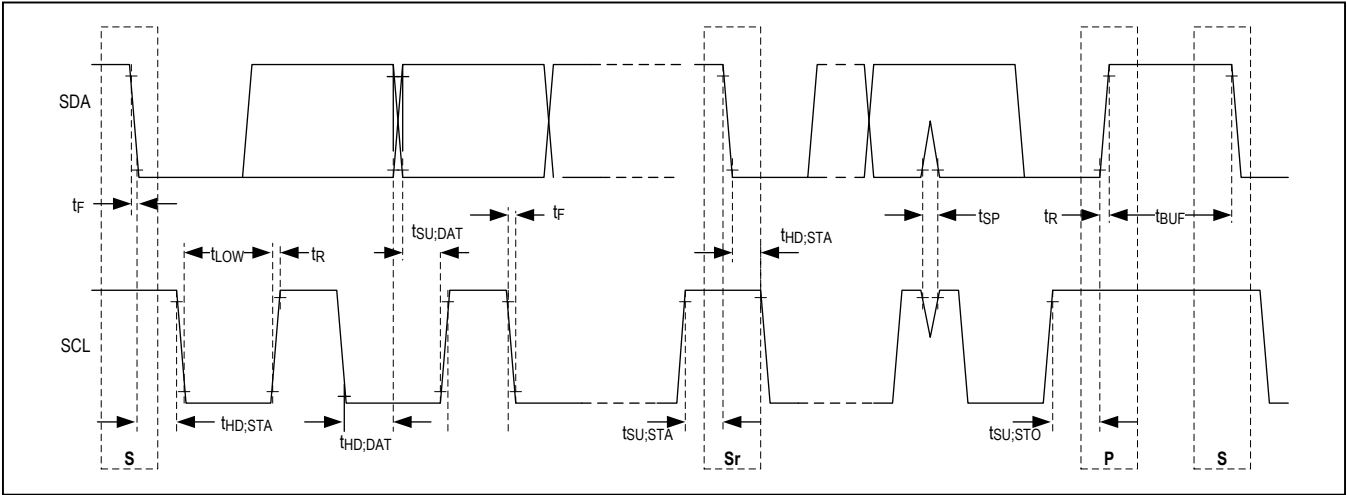

Figure 2. Timing Diagram
**Note 5:** See Figure 2 for timing diagram. All timing is referenced to  $0.9 \times V_{\text{DD}}$  and  $0.1 \times V_{\text{DD}}$ .